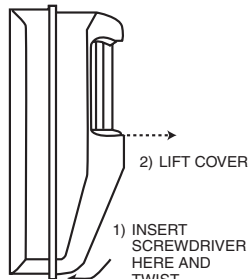

Figure 2. Cover Removal
1. Remove front cover by inserting a large screwdriver blade (or small coin) in groove between cover and base at the location shown in Figure 2; rotate blade to override snap fit, then lift cover off.